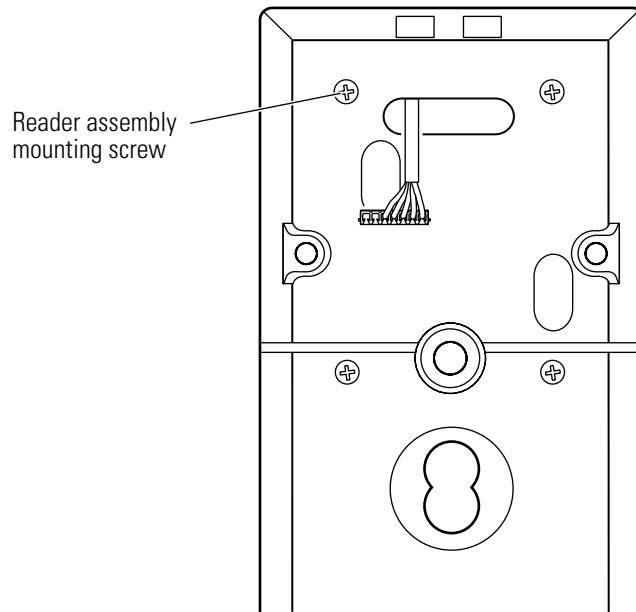

Figure 9.15 Removing and reinstalling the screws for the magnetic stripe reader assembly
2. Remove and save the four reader assembly mounting screws. See Figure 9.15.
2. Position the reader assembly on the reader gasket and install the four reader assembly mounting screws. See Figure 9.15.